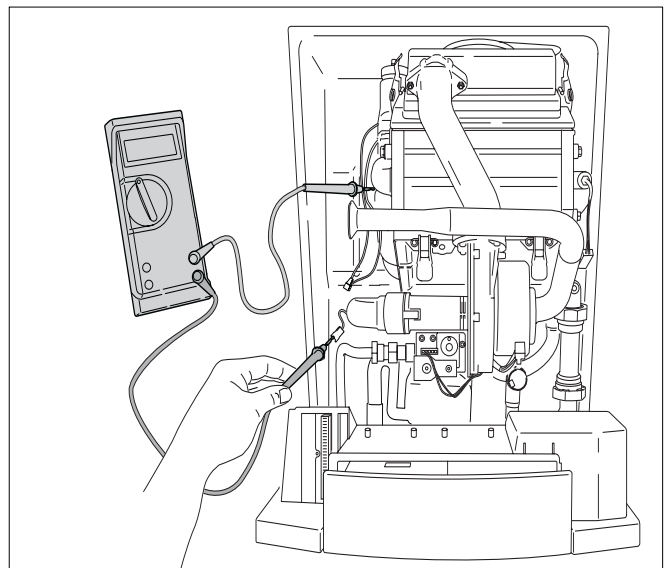
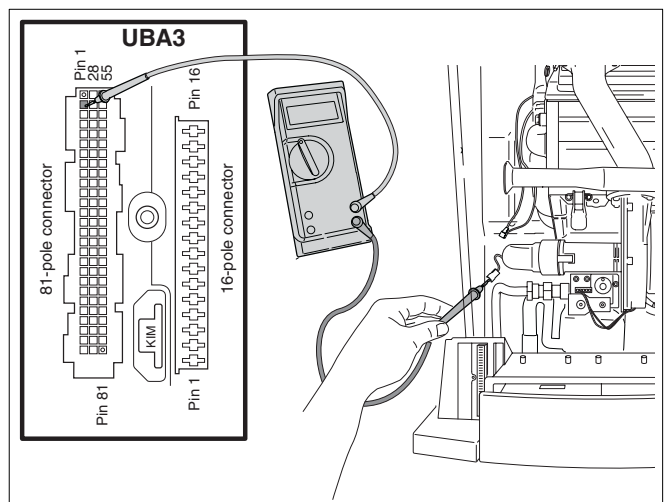

Fig. 66 Testing the earth connection circuit of the ionization electrode (1)
Fig. 67 Testing the earth connection circuit of the ionization electrode (2)
- Test the ionization cable between the plug and socket connection and the UBA3 installation base to make sure that it has no short circuit to earth (see fig. 66 and fig. 25 on page 26) and that it is not broken anywhere (see fig. 67).
- Test the earth connection circuit of the ionization electrode (see fig. 66). The height of the resistance value must be infinite.